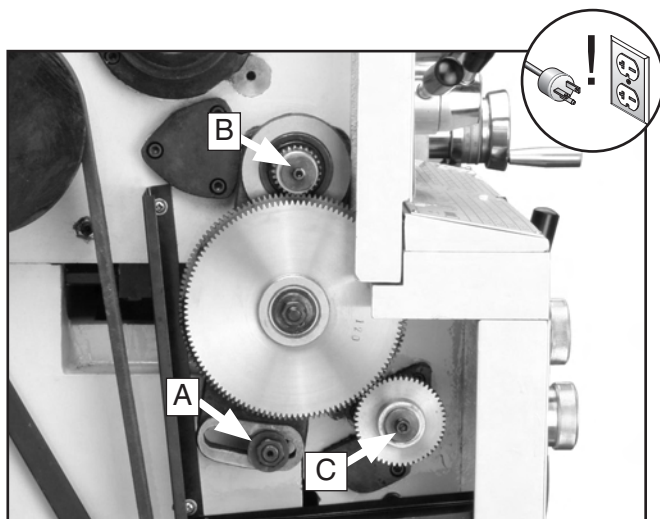

Figure 57. Gear change locations.
3. Loosen the hex nut on the pivot just below the large gear in **Figure 57**, Item A.
5. Remove the cap screw in **Figure 57**, Item B or C, depending on which gear is to be changed.
7. Loosen the hex nut in **Figure 57**, Item A, and move the gear set up until the larger gears mesh with the smaller gears. Tighten the nut to hold the large gear set in place. Make sure there is a gap of 0.001"-0.002" between gears.